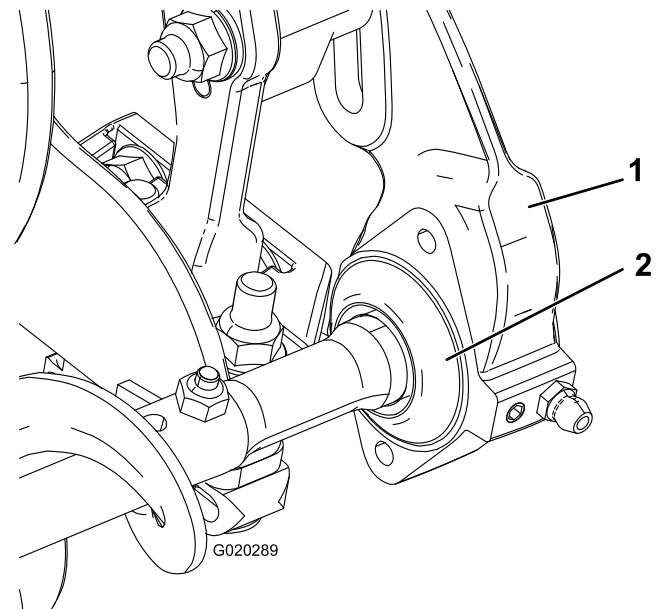

Figure 6
1. Slide each excluder seal outward until the lip seals are in light contact with each bearing housing (Figure 6).